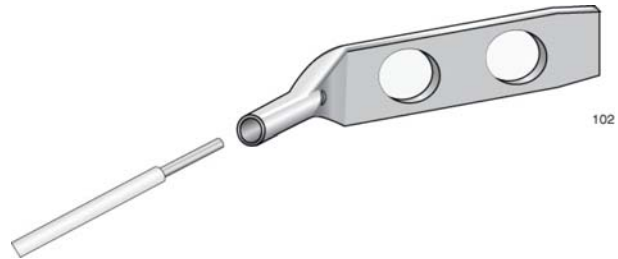

Figure 46. Attaching the Grounding Wire to the Grounding Lug
3. Insert one end of the grounding wire into the grounding lug, as shown in Figure 46, and use a crimping tool to secure the wire to the grounding lug.